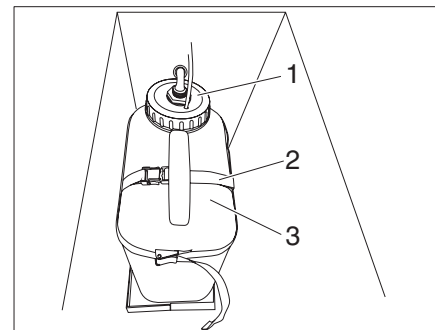

Fig. 84 Water tank for external shower
The water tank (Fig. 84) for the external shower is located on the left side of the vehicle under the access flap in front of the gas cooker.
- ▶ Loosen the fastening straps (Fig. 84,2).
- ▶ Unscrew cover (Fig. 84,1) and remove with submerged pump.
- ▶ Remove the water tank (Fig. 84,3) and fill it.
- ▶ Insert filled water tank, insert cover with submerged pump (Fig. 84,1) and screw tight.
- ▶ Secure water tank with fastening straps (Fig. 84,2).